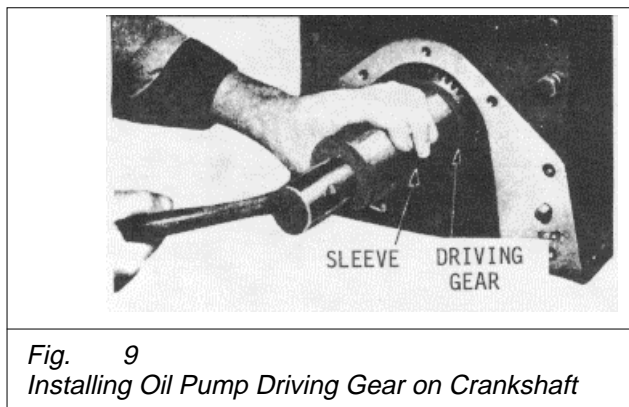

Fig. 9
- (1) Install the Woodruff key in the crankshaft.
- (2) Position the gear (80) so the chamfer on the gear hub is toward the main bearing cap and start the gear on the shaft and over the key.
- (3) Slide the gear on the crankshaft or use a sleeve if required, as illustrated in Fig. 9, and drive the gear tight against the shoulder on the crankshaft.